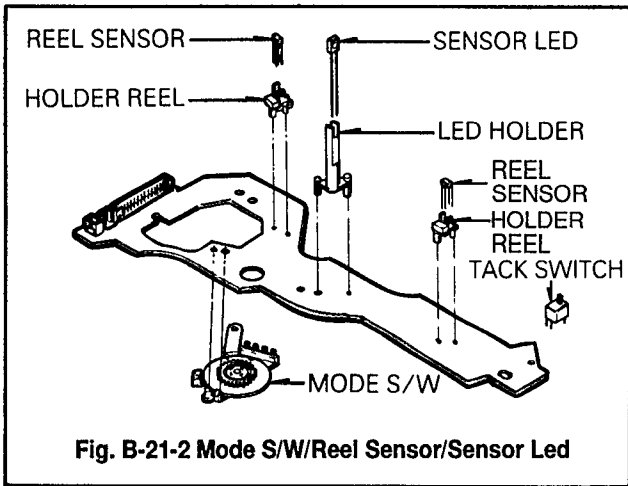

Fig. B-21-2 Mode S/W/Reel Sensor/Sensor Led
- 2) Remove two screws(A), (B) and then remove the Junction P.C.B Assembly.
- 4) Remove the Reel Sensor, Sensor LEDs and each holder from the Junction P.C.B(Fig. B-21-2).